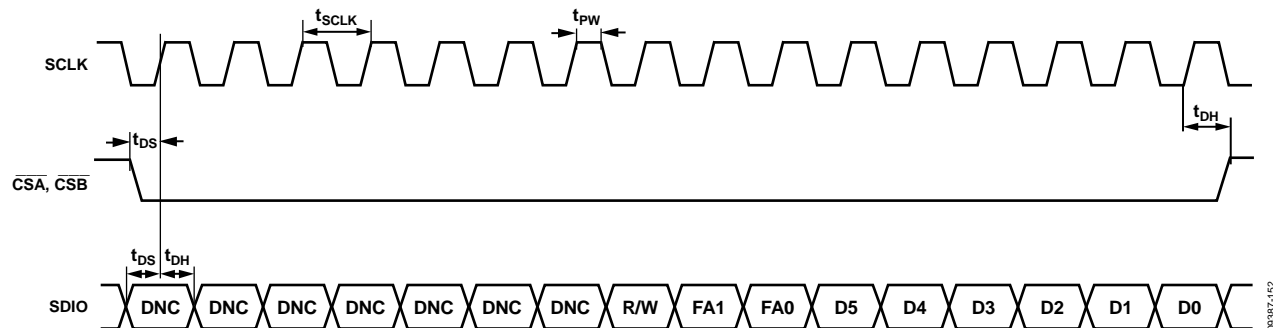

Figure 52. SPI Interface Read/Write Mode Timing Diagram
To write to the ADL5202, refer to the timing shown in Figure 2 (reproduced in this section as Figure 52). The write mode uses a 16-bit serial word on the SDIO pin. The R/W of the word must be low to write Bits[D0:D5], which are the binary weighted codes for the attenuation level (0 = minimum attenuation, 63 = maximum attenuation). The FA0 and FA1 bits control the fast attack step size. The DNC bits are nonfunctional, do not care bits. Reading the ADL5202 SPI register requires the following two steps:
1. Set the R/W bit high using a 16-bit word and the timing described in this section and Figure 52. All other bits are ignored when the R/W bit is high.
2. The SDIO is used as an output during the next sequence. The written pattern is serially clocked out on SDIO using 16 clocks and the timing described in this section and Figure 52. The R/W bit automatically returns low to the write state following the read sequence.